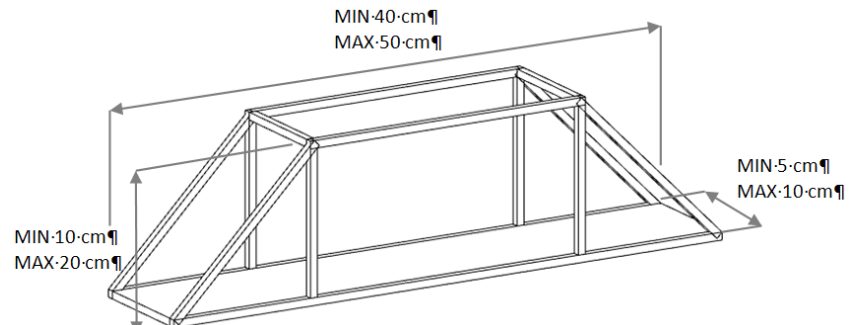

Figure 1 – “FOR EXAMPLE ONLY”
1. A team shall consist of three (3) students who shall construct the bridge.
2. Teams are responsible for constructing the superstructure for their bridge. The foundation for the bridge shall be provided at the testing site. See Figure 1- Figure 4
4. The maximum allowable superstructure height is 20 cm. See Figure 1
5. The minimum allowable superstructure height is 10 cm. See Figure 1
7. The minimum width of the roadway shall not be less than 5 cm. See Figure 1
8. The maximum width of the roadway shall not exceed 10 cm. See Figure 1
9. The minimum length of the roadway shall not be less than 40 cm. See Figure 1
10. The maximum length of the roadway shall not exceed 50 cm. See Figure 1